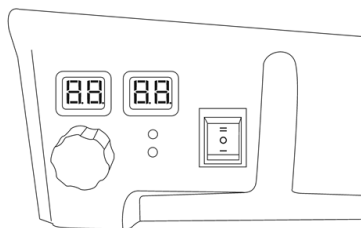

Figure. 4
2. Open the gas valve and turn the power switch to position "II". The left display window shows the set temperature, and the right window shows the room temperature. The heater will automatically ignite when the set temperature is higher than the room temperature (see Figure 4).